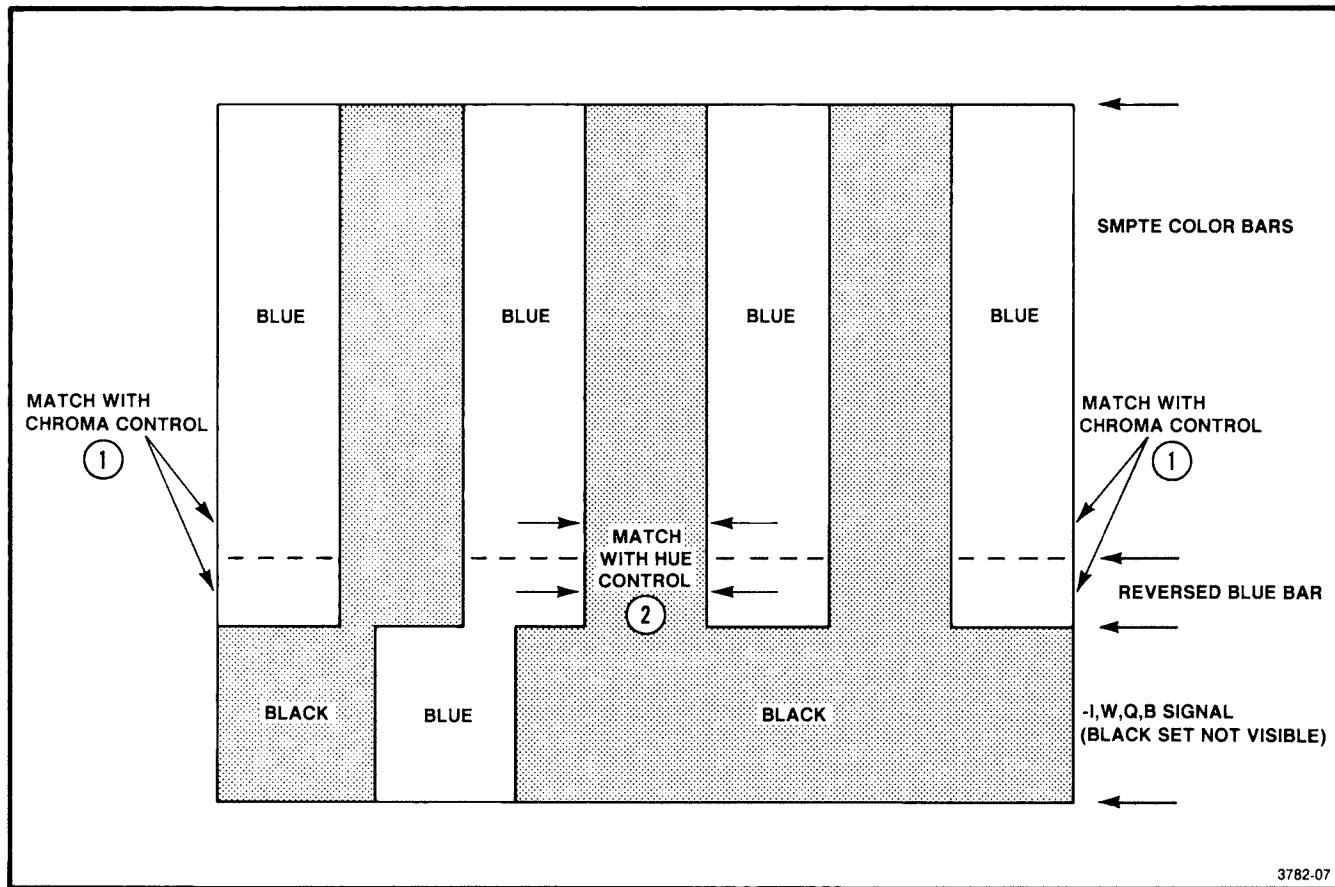

Fig. 1-7. Using SMPTE color bars signal to adjust picture monitor Chroma and Hue controls.
- b. Compare the extreme left or right blue bar with the reversed color bars segment directly below it. Adjust the monitor Chroma control until there is no color difference (See Fig. 1-7).
- c. Next, compare either of the center blue bars to the reverse color bars segment directly below it. Adjust the monitor Hue control until there is no color difference (See Fig. 1-7).